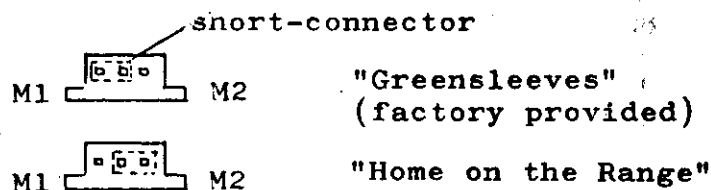

Fig.9 Selection of Tune
7. Select the desired tune using the short-connector "MJ" as shown in Figure 9 below.